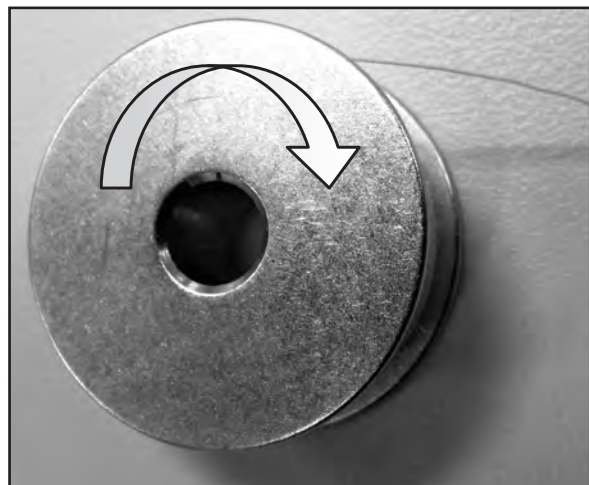

Figure 14
1. Place the bobbin in the bobbin case so that the thread pulls off clockwise when viewing the open side of case (Figure 14).